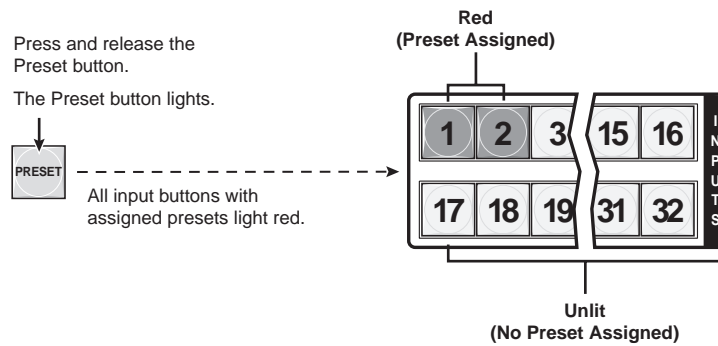

Figure 3-48 — Enter Recall Preset mode
2. Press and release the Preset button (figure 3-48).